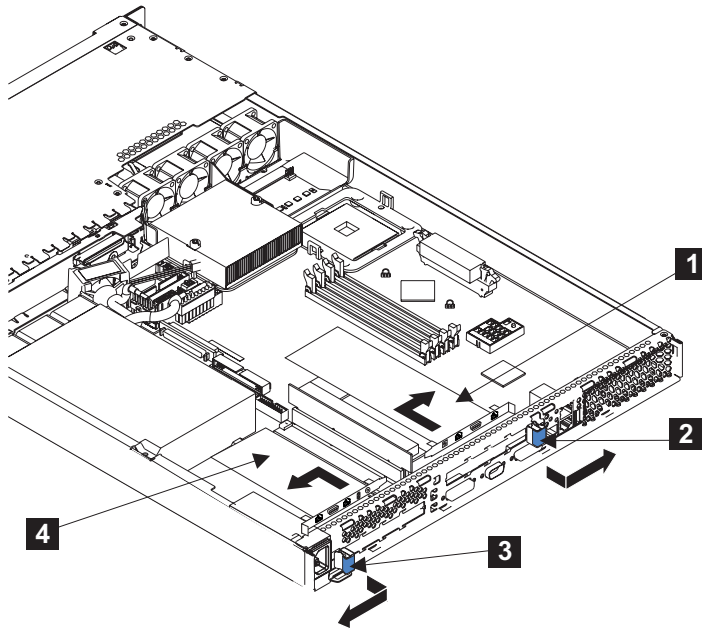

Figure 143. SAN Volume Controller 2145-4F2 before removing an adapter
4. For the adapter that you are going to remove, press the sides of the expansion-slot clip (**2** or **3** in Figure 143 on page 400) together to unlock the clip, and then pivot the expansion-slot clip away from the adapter. The expansion-slot clip remains loosely attached to the SAN Volume Controller 2145-4F2.